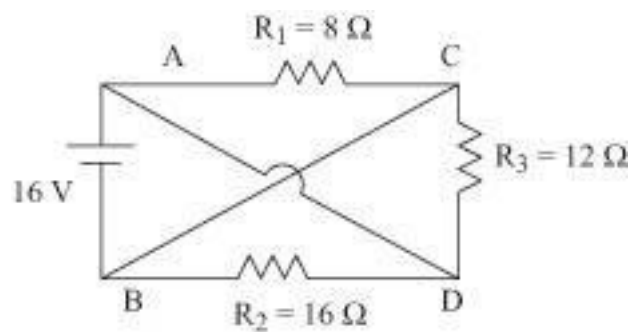

Figure1.13
5. Calculate the total resistance and battery current in the given circuit shown in figure 1.13.